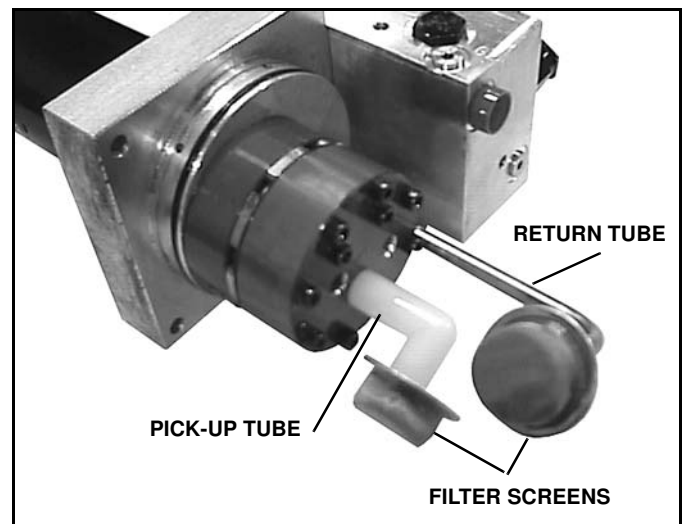

Figure 1-57
8. Loosen the clamp securing the oil reservoir to the pump assembly and remove the oil reservoir being careful not to damage the filter screen while removing the oil reservoir. (See Figure 1-57).
11. Visually check that the pickup tube and filter face down. (See Figure 1-57). If not, rotate the pickup tube until the tube and filter face down.